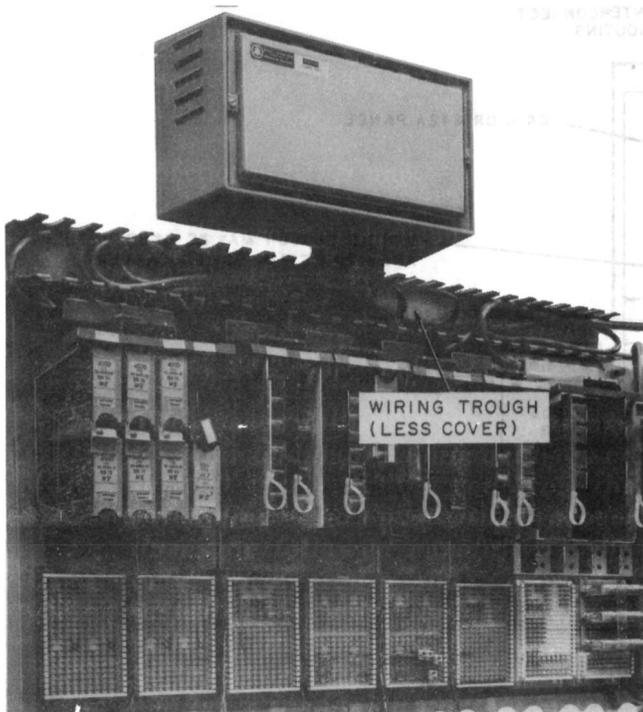

Fig. 11—Installation Using Wiring Troughs for Power Cabling
- (7) Fasten the backboard plate assembly to the wall using appropriate fasteners.
- (8) Hang power unit on backboard and secure it with the machine screw(s) provided.
- (9) Plug single-ended power interconnect cable of modular panel into appropriate connector of power unit. If it will not reach the power unit, use a P12D cord (Table D) to complete the connection. To disconnect power cord, squeeze the tabs on the top and bottom of the power cord connector and pull out.
- (10) Wiring troughs (Fig. 11) may be used to hold excess loops of power cable and improve the appearance of the installation. Mount the troughs horizontally on the wall directly above the modular panels (mounting screws to be obtained locally). Press the loose power cable into the slots, looping it until slack is removed. Put cover on troughs. One trough will fit above two 620A-type panels or four 641As or 642As. Snap-on covers are provided with the wiring trough to retain the cables and to improve appearance.